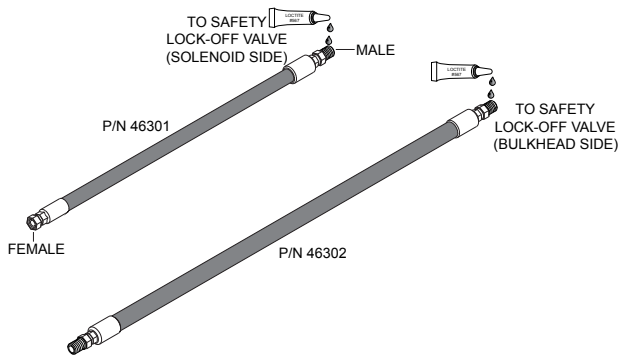

Figure 17. Applying Loctite® 567™ (Safety Lock-Off Valve Side)
12. Apply Loctite® 567™ to the threads on either end of the new, long hose (P/N 46302), and to the **male** threads on the new, short hose (P/N 46301). Reference Figure 17.